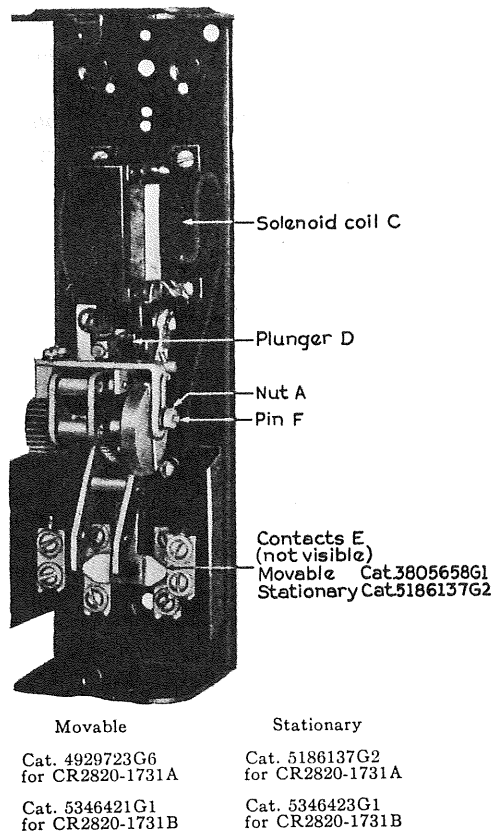

Fig. 1. CR2820-1731A Time-delay Relay
These relays are adjusted in the factory, and under ordinary conditions the time adjustment need not be disturbed. However, if this time interval is not correct, it can be changed by loosening nut (A), Fig. 1, and moving pin (F) down for increased time or up for decreased time. The time may be adjusted from 1 to 4 seconds.
Renewal parts should be ordered by the Cat. No. given in Fig. 1. For other parts not identified by Cat. No. refer to the nearest Sales Office of the General Electric Company giving the complete nameplate rating of the relay and describing the part in detail.
FIG. 1—CLOSED TYPE SG RELAY SHOWING SOLID MOLDED COVER, RELAY WITH COVER OFF, AND MOLDED COVER WITH GLASS WINDOW. THIS RELAY HAS TWO-MAKE AND TWO-BREAK CONTACTS.
The SG relay, closed type, is shown in Fig. 1. The magnetic circuit is fastened to the molded base by two screws, while the coil and core are held securely in place by one screw. The armature is held in the de-energized position by gravity and a spring.